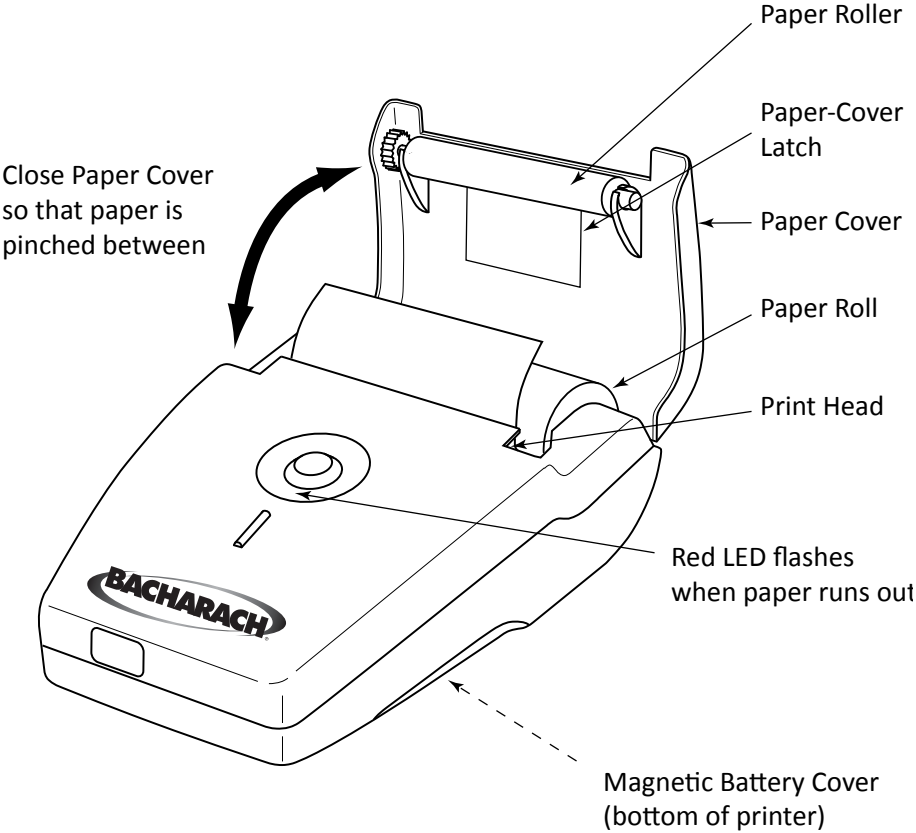

Figure 3. Maintenance
1. Lift up paper-cover latch, and then open paper cover as shown in Figure 3.